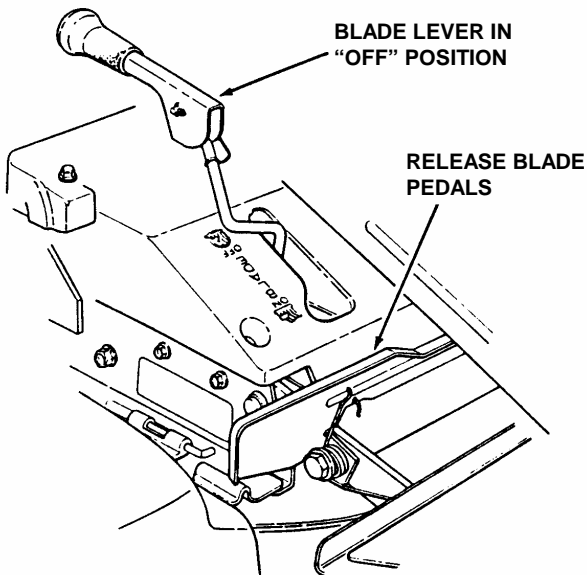
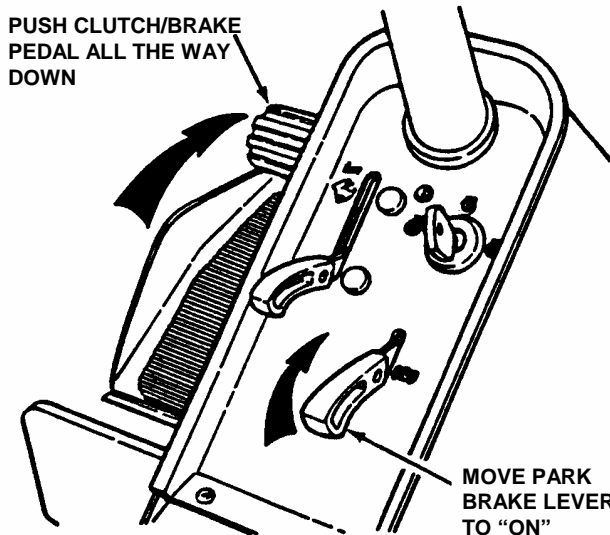

FIGURE 2.4
FIGURE 2.8
2. Make certain the Blade Lever is in the "OFF" position. See Figure 2.4.
IMPORTANT: When the ignition key is turned to "RUN", and the recoil handle is pulled, the engine will turn over, but will not start unless the Clutch/Brake Pedal is pressed all the way down with Parking Brake engaged (See Figure 2.8) and the Blade Lever is in the "Off" position (See Figure 2.4). Start engine as follows:
3. Press Clutch/Brake Pedal all the way down, lift Parking Brake Lever and release the Clutch/Brake Pedal to set Parking Brake. See Figure 2.8.